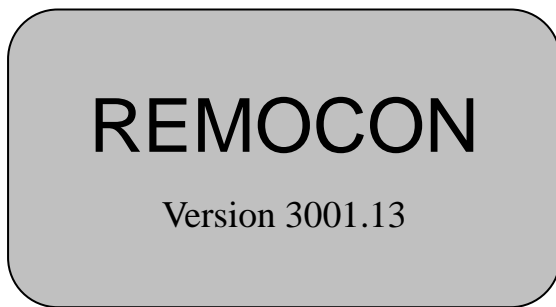

Fig. 1
1. Plug in the power adapter into power outlet and push power switch on.(Fig.1)